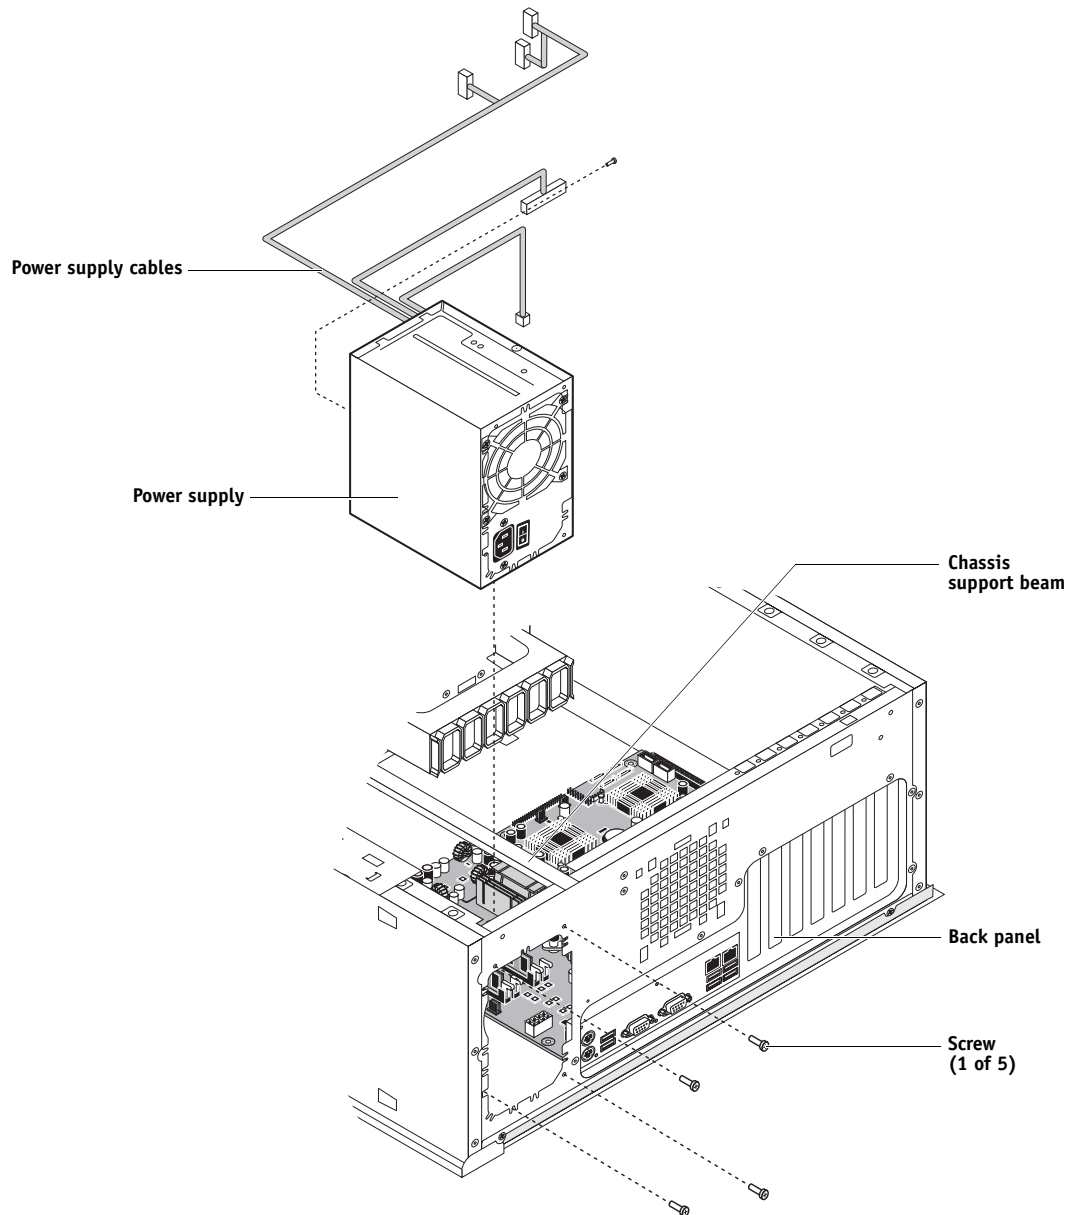

FIGURE 32: Removing/replacing the power supply
- 8. Remove four of the five screws that attach the power supply to the back of the chassis (see Figure 32 on page 89).**
2. Attach the power supply to the chassis with the four screws that you removed earlier (see Figure 32 on page 89).
8. Locate the reusable tie-wrap that you removed earlier and use it to attach the loose section of the power cable to the chassis support beam (see Figure 32 on page 89).